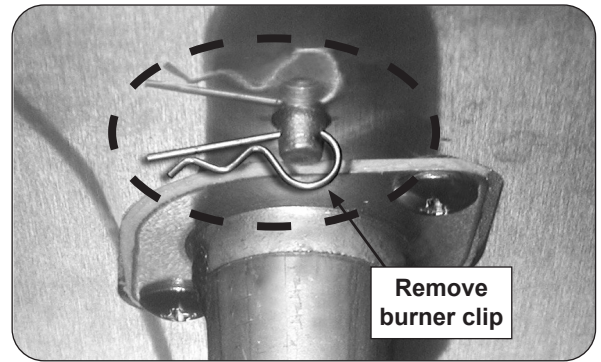

Fig. 37-1 Remove burner clip
2. Locate and remove the cotter pin from the side burner assembly underneath the shelf using needle-nose pliers (see Fig. 37-1).
3. Reach up under the burner support and remove the cotter pin (see Fig. 37-1), located at the rear of the burner pipe.
7. Replace the cotter pin (underneath burner). Reference Fig. 37-1.